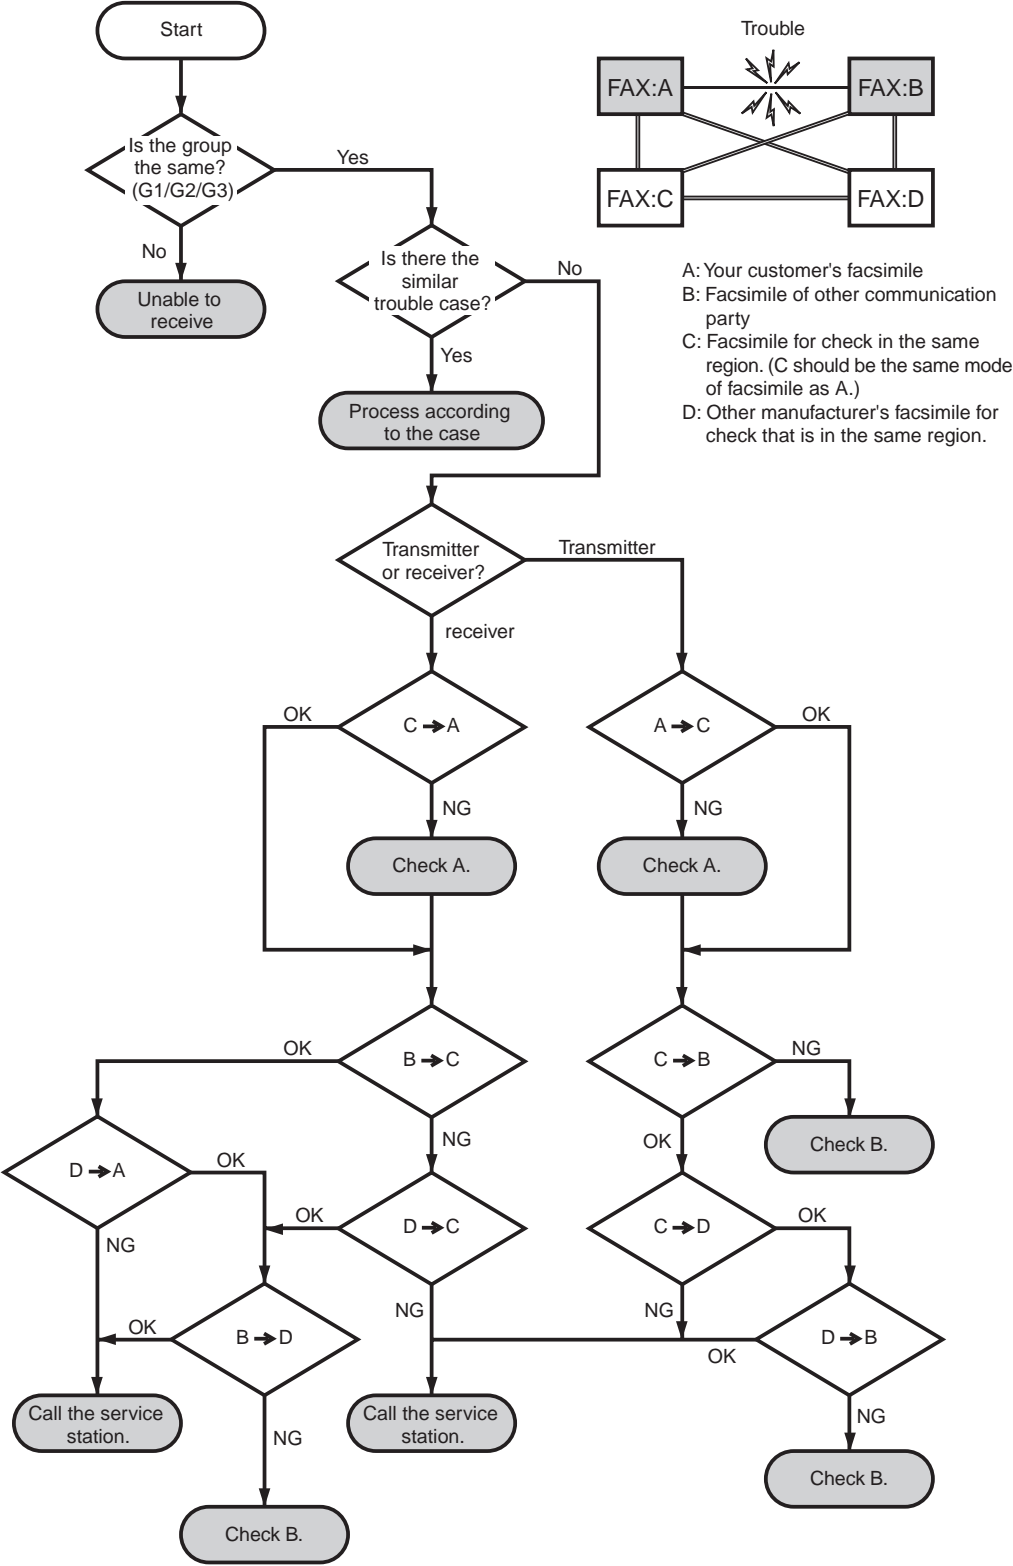

Figure 4-13 Flowchart for Processing Communication Troubles with other manufacturer's facsimile
“Call the service station” in the flowchart (*Fig.4-13*) means that problems may occur with regard to the communication compatibility of facsimile, consult the matter with the staff in charge at the service station. To quicken the resolving of the problem, report the information listed in (1) above.